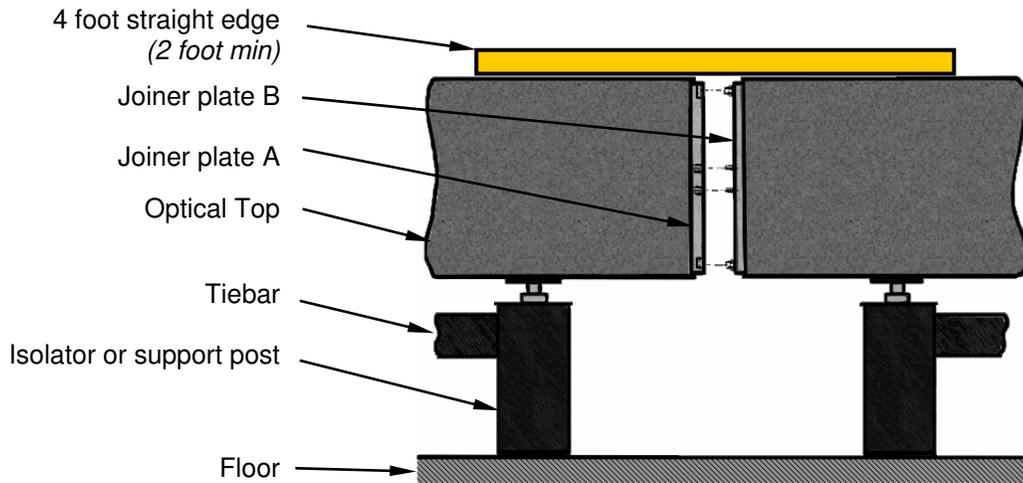

Figure 3 Joiner plates
- Step 8** Lift and move the second top and position it just above the isolators/posts as shown in figure 3 below using the Gantry.
This can be facilitated by placing a straight edge across the two top surfaces as shown in figure 3 below.
Step 12 Slowly ratchet the two tops together while ensuring that the tops remain co-planar and level with respect to one another as referenced in figure 3 above.